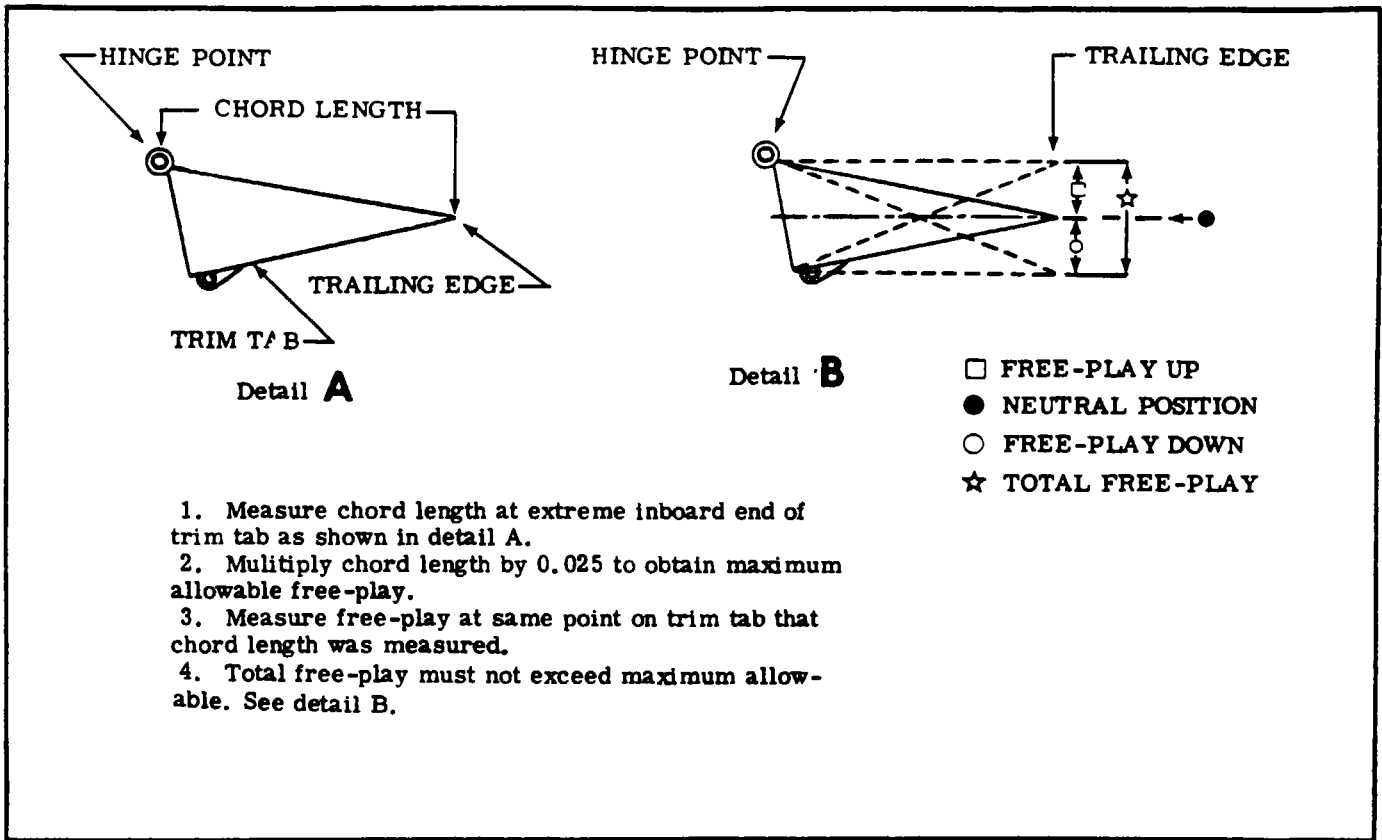

Figure 9-2A. Trim Tab Free-Play Inspection.
b. Determine maximum amount of allowable free-play using procedures shown in figure 9-2A.